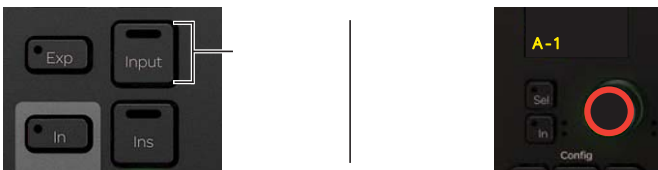

Figure 63. Input switch on Process Module (at left) and top level input knob set (at right)
- 1 In the strip for the desired track, press **Input** on the Process module (see Figure 63, left image). The first knob in the Knob Module shows the current input assignment for the track (see Figure 63, right image). If no Knob Module is present for that strip, the current assignment appears in the Process Module encoder display.